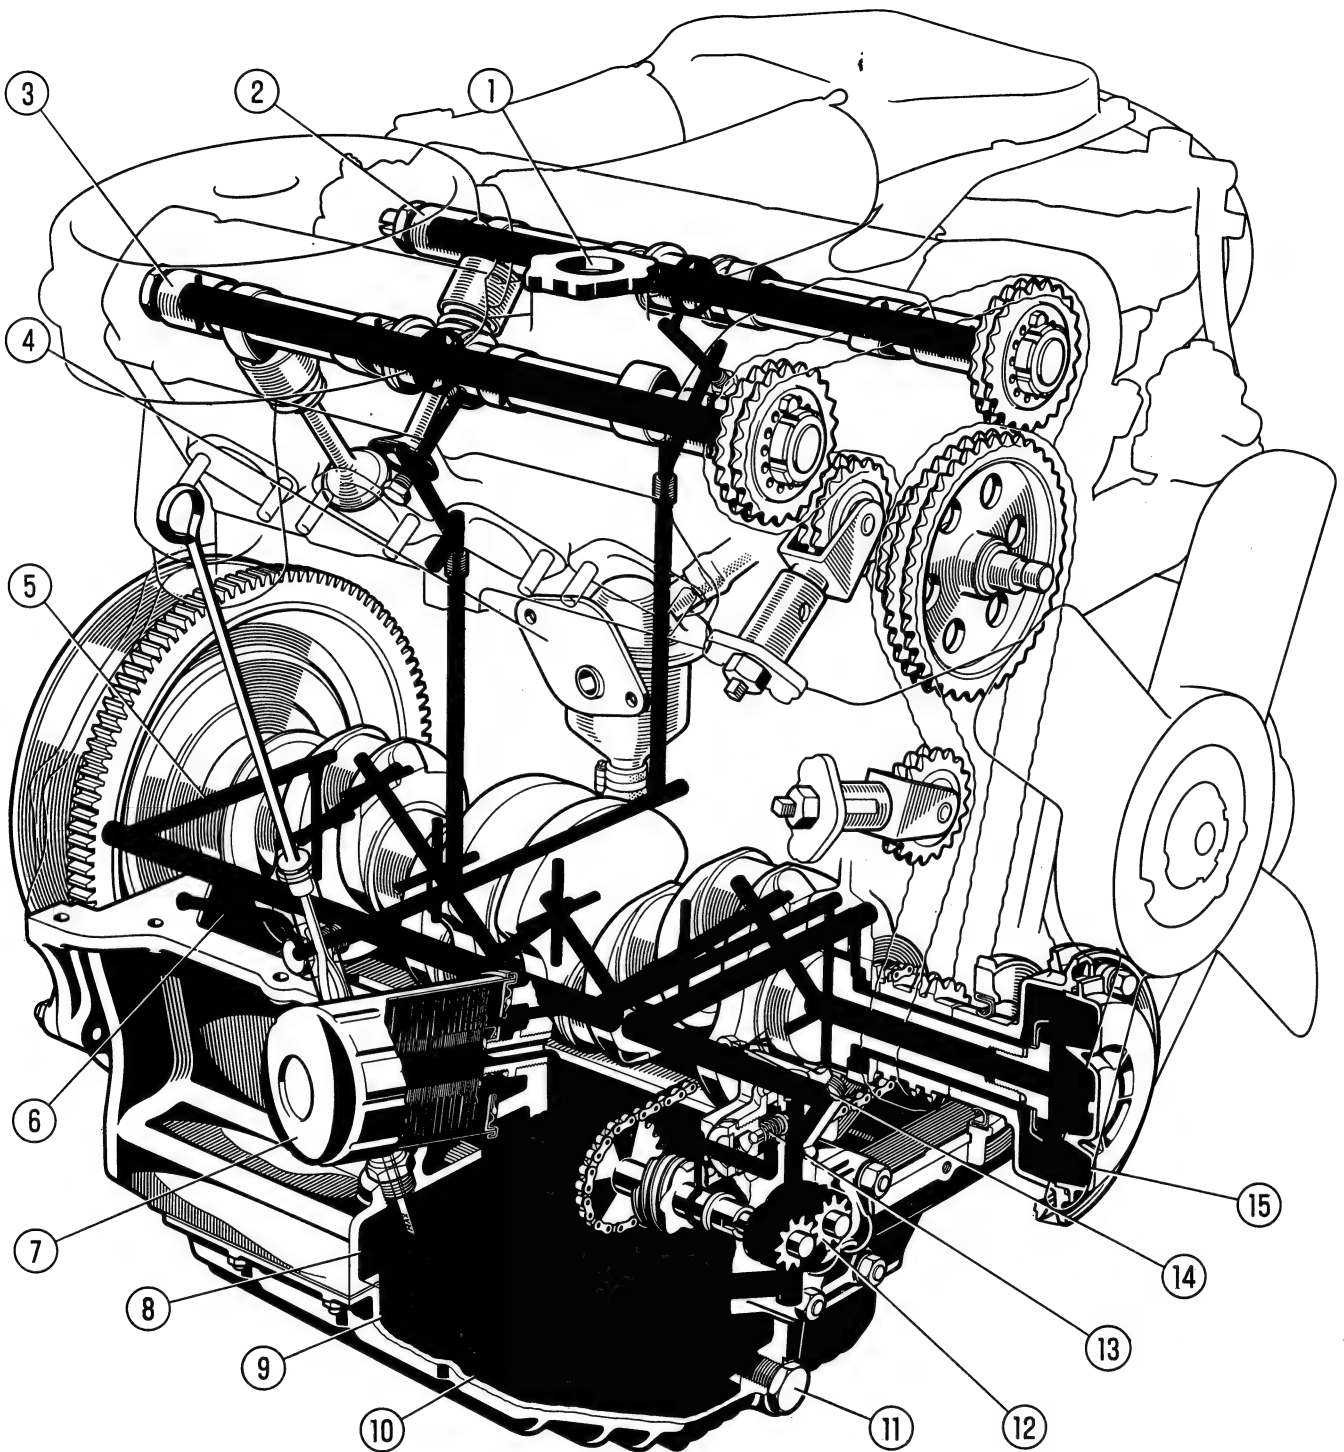

Fig. 76. - Cut-away and phantom view of 118 B.000 engine lubrication system.
- an oil suction line (9, fig. 76) from sump;
- a centrifugal delivery oil filter (15);
- a by pass, supplementary oil filter (7), mounted on engine right side;
- an oil pressure relief valve (13) on pump housing;
Oil pump and ignition distributor are driven off the crankshaft via a chain (figs. 76 and 67).